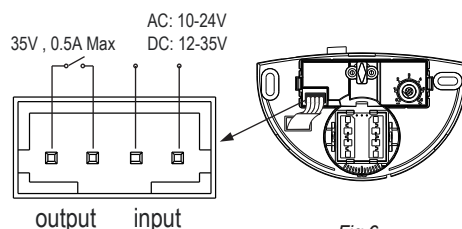

Fig.6
Step4 Connect the cable to the product through the cable entry openings.(as Fig6.)